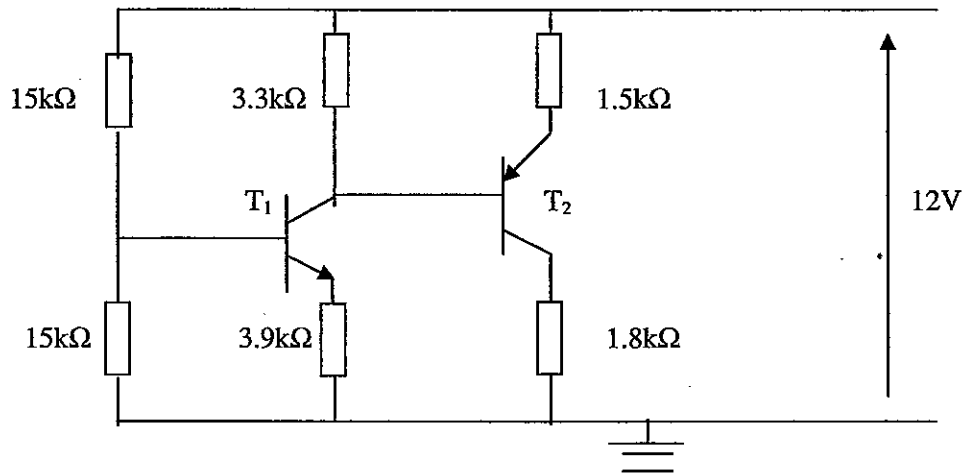

Fig Q3
- (a) After a time of 0.5 seconds from switching on the voltage across the capacitor is 160 volts. Calculate the voltage of the d.c. supply. (6)
- Calculate the time taken for the voltage across the capacitor to fall to 160 volts. (6)
- (c) Calculate the energy stored in the capacitor when it is charged to half the supply volts. (4)
3. In the two stage transistor amplifier shown in Fig Q3 the volt drop between emitter and base for each transistor is  $0.4\text{V}$  and the base currents are small enough to be neglected.
- calculate the voltage at the base of transistor  $T_2$ ; (6)
- calculate the voltage at the collector of transistor  $T_2$ ; (6)
- calculate the total current drawn by the amplifier circuit. (4)